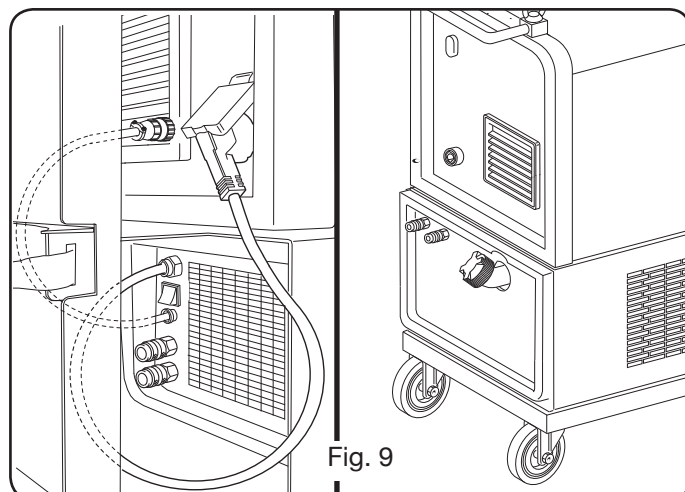

Fig. 9
3.5 MONTERING AF AFKØLINGSGRUPPE (ART. 1683 – DER LEVERES VED ANMODNING ART. 306-308-315-316) (Fig.9)